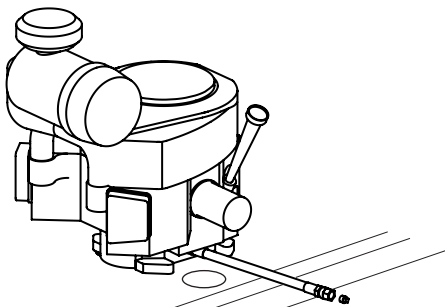

Figure 18
2. Locate the oil drain hose on the engine. See Figure 18.
4. While holding the free end of the oil drain hose over the oil collection container, unscrew the square-head hose plug from the end of the hose. See Figure 18. Drain the engine oil into the collection container.